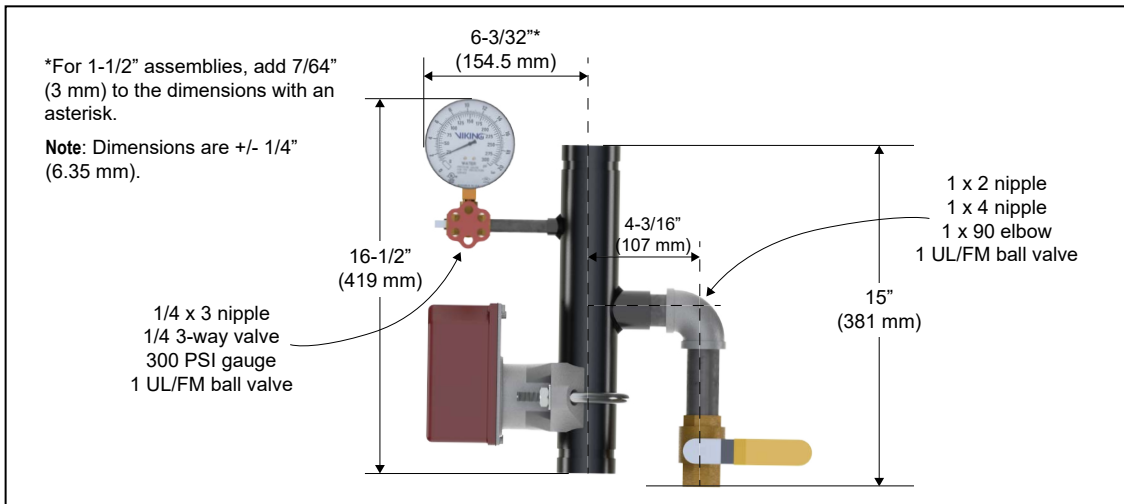

Figure 1 - Flow Switch with Two Single Pole, Double Throw Micro Switches
- Flow Switch: Two single-pole double-throw switches with Form C contacts rated at 15 Amps 125/250 V. AC, 2.5 Amp 0-30 V. DC. Each switch can be wired for open or closed circuit operation. See Figure 1.